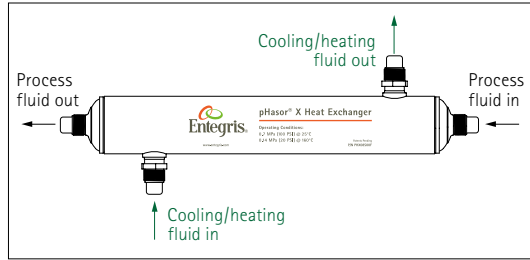
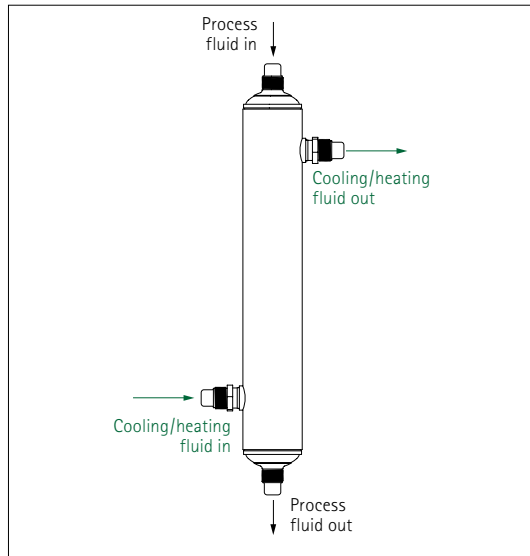

Figure 1. Counter flow (horizontal installation).
Figure 2. Counter flow (vertical installation).
2. The heat exchanger should be securely mounted in the position most convenient for your space, which can be vertical, horizontal or at an angle. To allow for proper venting, the shell side inlet position should always be lower than the shell side outlet position, as shown in Figure 1.
3. For best heat transfer efficiency, a counter flow configuration should be used, where the direction of flow through the shell side is opposite to the direction of flow through the tube side, which is shown in Figures 1 and 3. The heat exchanger can also be used in a parallel flow configuration, where the direction of flow through the shell is the same as the direction of flow through the tubes, which is shown in Figures 2 and 4.